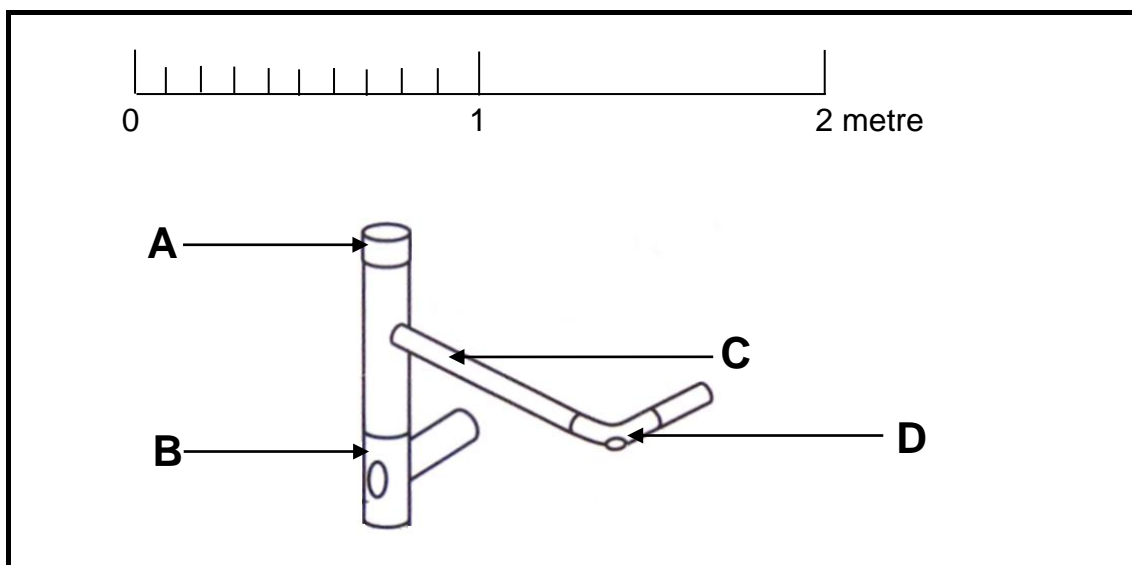

FIGURE 5.11
5.11 FIGURE 5.11 shows the pictorial view of a part of the layout for a drainage system. Answer the following questions regarding the system.
5.11.5 Use the graphic scale in FIGURE 5.11 and calculate the length of part **C**. (1)